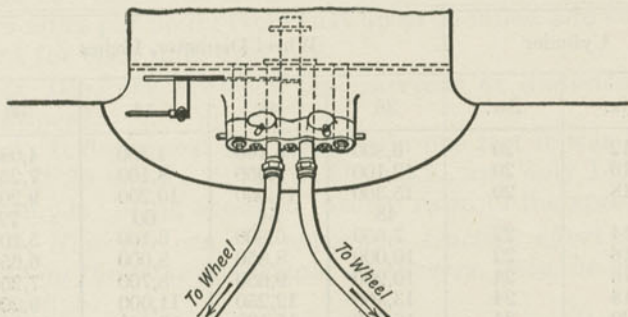

Fig. 265. Leach Sanding Device.
A. In the double form, as shown in Fig. 265, there is a casting attached outside of and communicating with the sand box and having independent outlets for the sand which is led through hand-lever controlled pipes to the rail. The sand may be forced through the pipes by compressed air; or if that should fail, the pitch of the pipes is steep enough to permit it to flow by gravity.